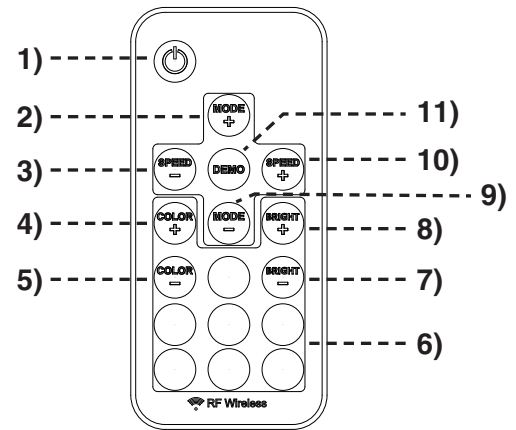
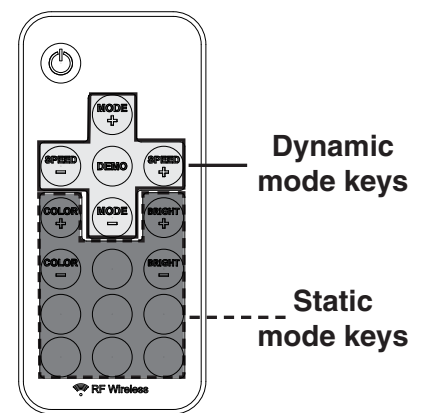

Fig. 39-1 Remote transmitter detail
Fig. 39-2 Remote transmitter modes detail
Prior to remote transmitter use, familiarize yourself with the transmitter keys as illustrated in Fig. 39-1 and Fig. 39-2.
2. Press the **POWER** key on the remote transmitter to turn the light on or off (see Fig. 39-1).
3. Use the remote as desired. Reference the above section and Fig. 39-1 and 39-2.